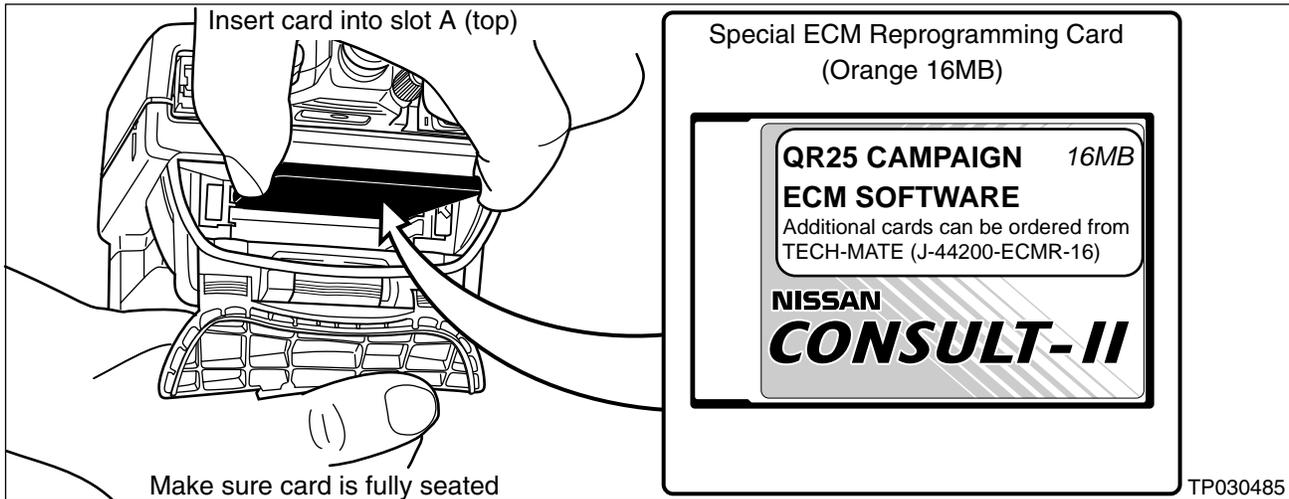

Figure C3
7. Remove the Diagnostics Card (red/white) and install the "QR25 Campaign ECM Software" reprogramming card (Orange 16MB) into slot A of CONSULT-II (see Figure C3).